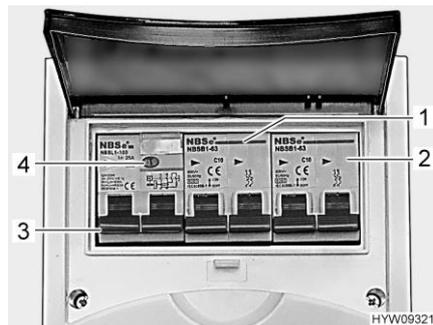

Fig. 121 Safety cut-out and FI-switch (230 V fuse box)
A fault current protection switch (FI-switch) (Fig. 121,3) in the fuse box protects the complete vehicle from fault current (30 mA).
The downstream safety cut-out (10 A) (Fig. 121,1) secures the 230 V sockets, the power supply unit, the auxiliary power supply unit and the refrigerator.
For vehicles with optional equipment, e.g. air conditioning unit, an additional safety cut-out (16 A) (Fig. 121,2) secures the device.
- When the vehicle is connected to the 230 V power supply, press the test button (Fig. 121,4). The fault current protection switch (FI-switch) must be activated.